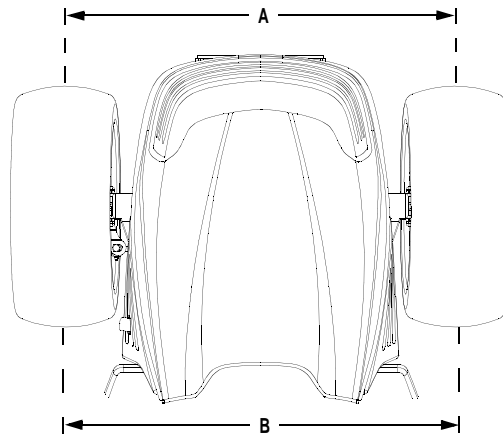

Figure 27
- Measure and record the distance 'A' between the two marks. See Figure 27.
- Roll the tractor forward or rearward until the marks are at the horizontal center line at the rear of the wheels. Measure and record the distance 'B' between the marks. See Figure 27.